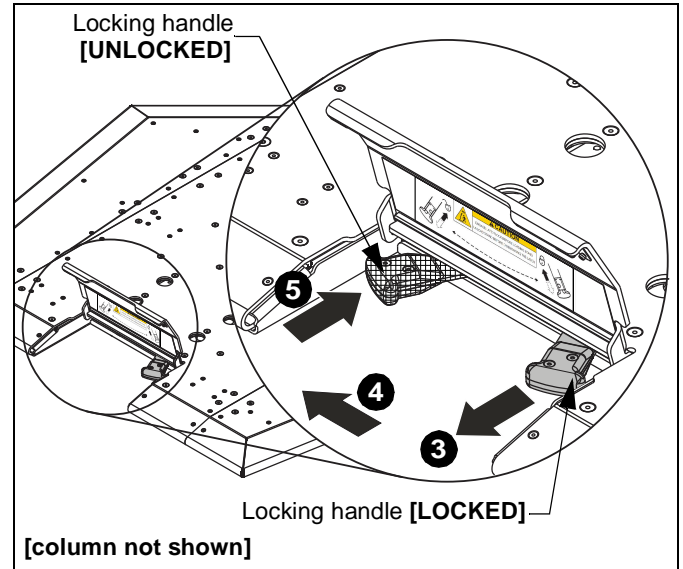

Figure 15
3. Pull out column latching handle. (See Figure 15)
4. Move handle to left until it retracts at the far left side of opening. (See Figure 15)
5. Ensure that handle retracts into base (A) to unlock column (B) from base. (See Figure 15)